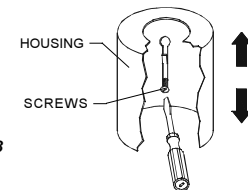

FIG.9
2. Use the screws to adjust the housing height. **Note:** Ensure that the housing is level with the ceiling. (Fig.9)
3. Tighten the screws when completed. (Fig.9)